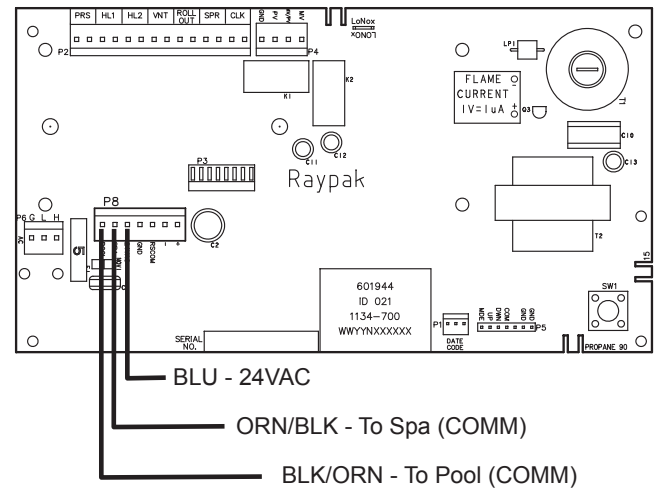

Figure 50. 3-Wire Remote Harness Installation on the P8 Connector of the Board
5. Install the "Remote Interface Harness" to the P8 connector and turn power ON to the heater. See **Figure 50**.